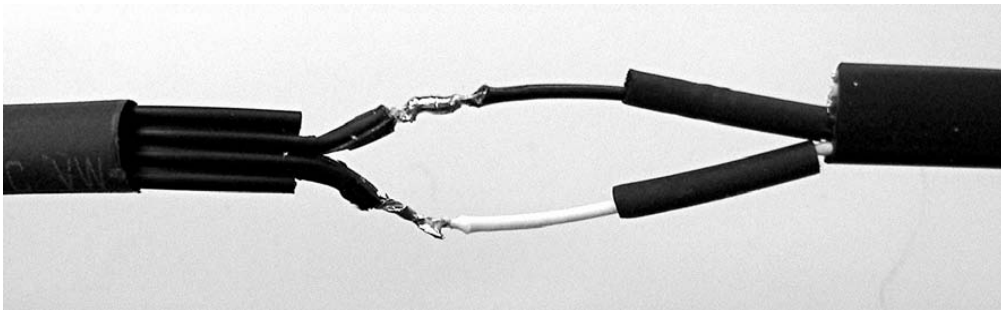

Figure 11-34. Solder black and white wires to Power Functions middle wires
3. Solder the black wire to C1 and the white to C2, as shown in Figure 11-34. It is all right if you get these mixed up because it only eventually affects which direction the motor rotates when given a forward command.